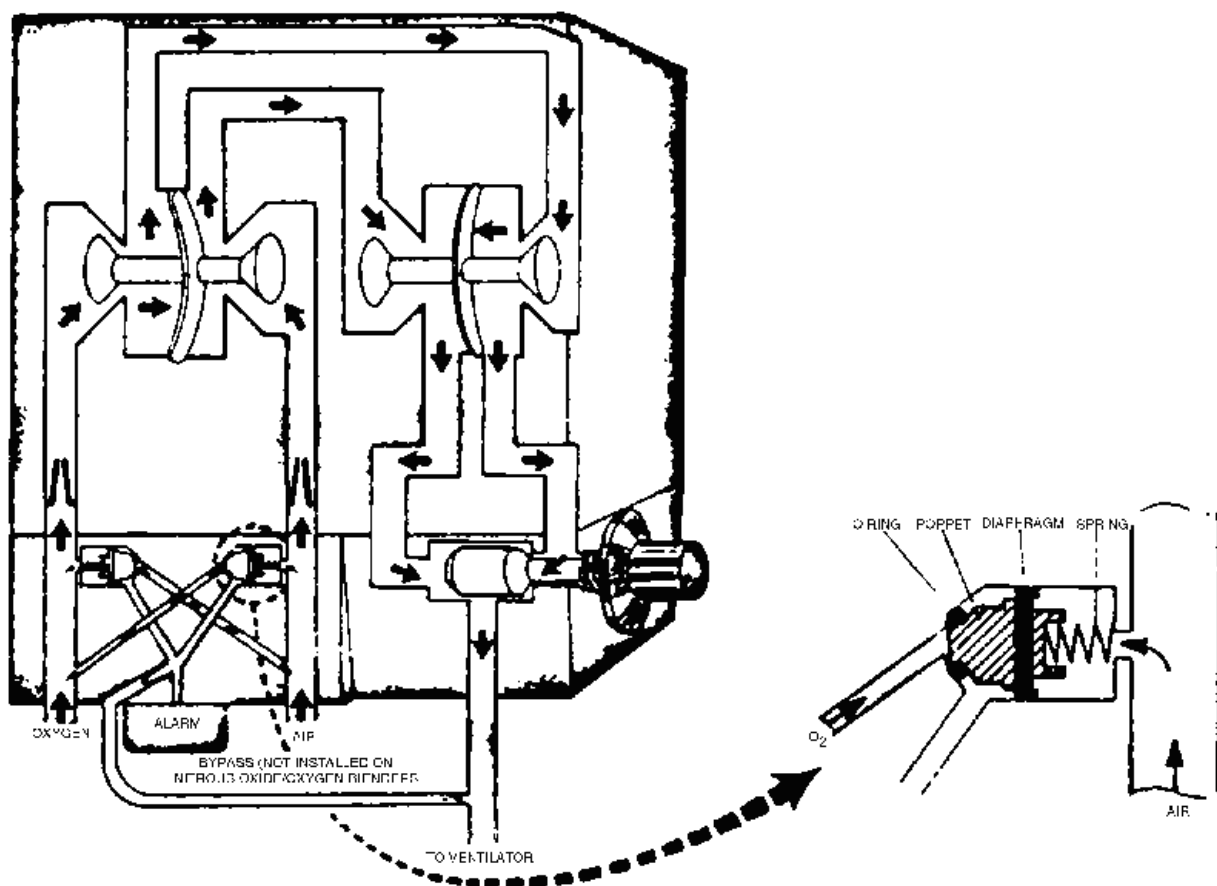

Figure 1-2. Oxygen blender and alarm.
a. **Oxygen Blender.** The oxygen blender (figure 1-2) precisely controls oxygen concentrations delivered to the Babybird ventilator. It requires reliable sources of air and oxygen to function properly. Control of source-gas pressure is important as the blender delivers gas mixtures at about 2psi below the lowest source-gas pressure. The ventilator requires a minimum of 45psi source pressure to operate. Minor differences in incoming pressures are compensated for within the blender. Both air and oxygen pressures are precisely balanced by dual pressure regulators and controlled by a calibrated proportioning valve. Use the control knob to set the exact oxygen and air mixtures for required concentrations of oxygen. If one of the gas supplies fail, the blender allows the other gas to continue to flow to the patient and sounds an alarm to warn of the failure. The alarm system consists of two diaphragm operated poppet valves, one of which opens and allows gas pressure to overcome spring tension on the valve and direct one of the gases to the audible alarm. When the ventilator is first activated, the alarm sounds until both air and oxygen pressures are equalized in the blender.